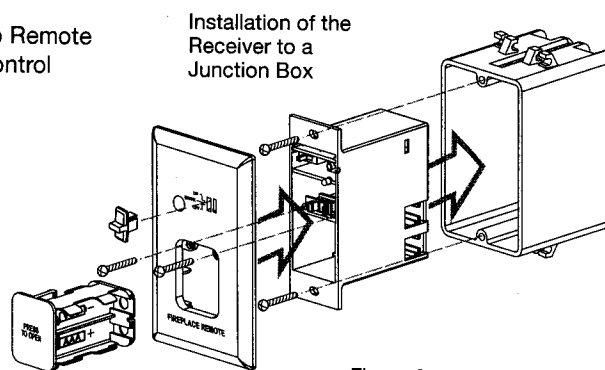

Figure 2
- Use the screws provided to secure the face blade to the Remote Receiver. See Figure 2.